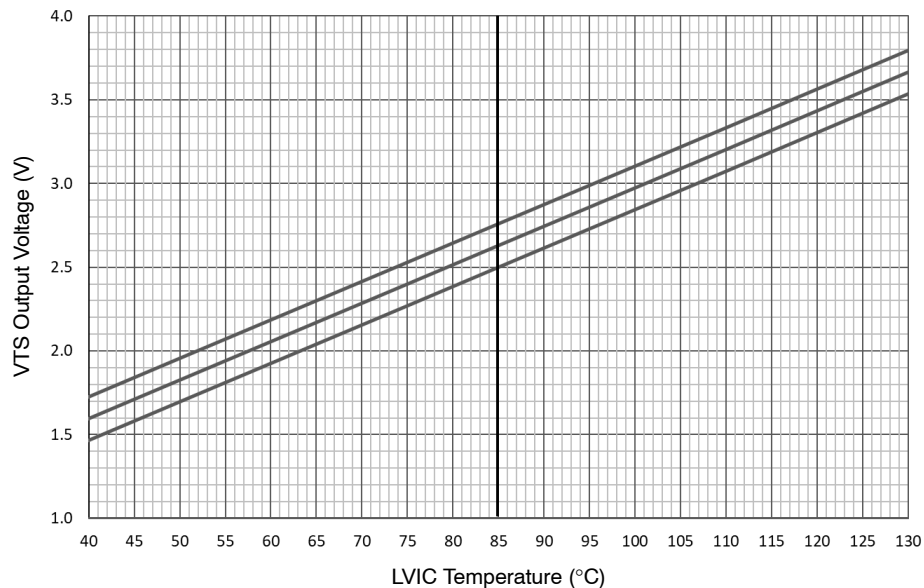
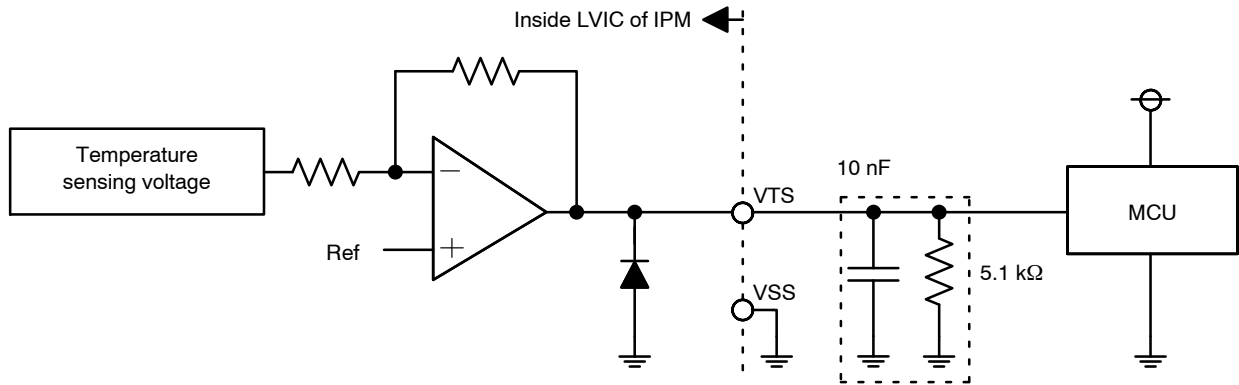

Figure 4. Temperature of LVIC vs. VTS Characteristics
Figure 5. Internal Block Diagram and Interface Circuit of VTS
- TLVIC is the temperature of LVIC itself. VTS is only for sensing temperature of LVIC and cannot shutdown IGBTs automatically. The relationship between VTS voltage output and LVIC temperature is described in Figure 4. It is recommended to add 5.1 kΩ pull down resistor between VTS and VSS (Signal Ground) as described in Figure 5 for linear output characteristics at low temperature. Refer to the application note for usage of VTS.
To avoid malfunction, the wiring of each input should be as short as possible (less than 2–3 cm). Each capacitor should be mounted as close to the pins of the product as possible. VFO output is open-drain type. This signal line should be pulled up to the positive side of the MCU or control power supply with a resistor that makes IFO up to 1 mA. Please refer to Figure 5.